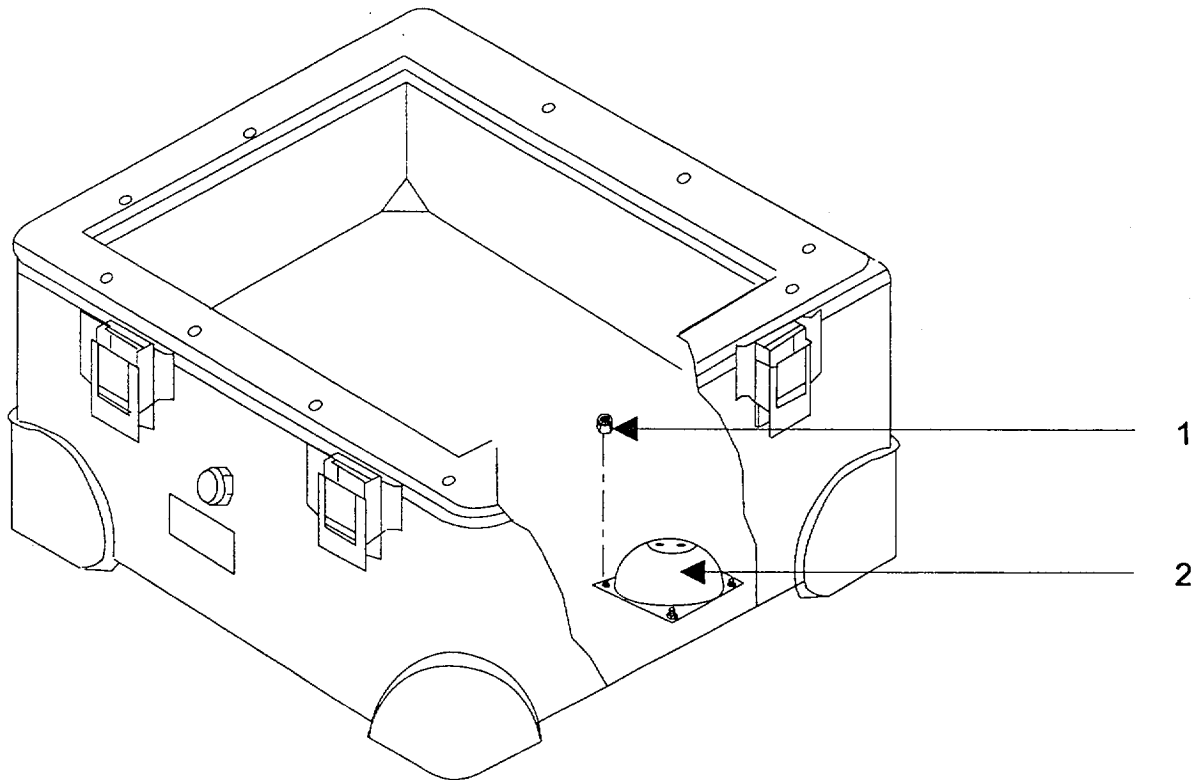

FIGURE 5-9.5. *Vibration Mount.*
- (1) Disassemble FTS (refer to para. 5-7).
- (2) Remove four nuts (1, Fig. 5-9.5) holding vibration mount (2) to case bottom.